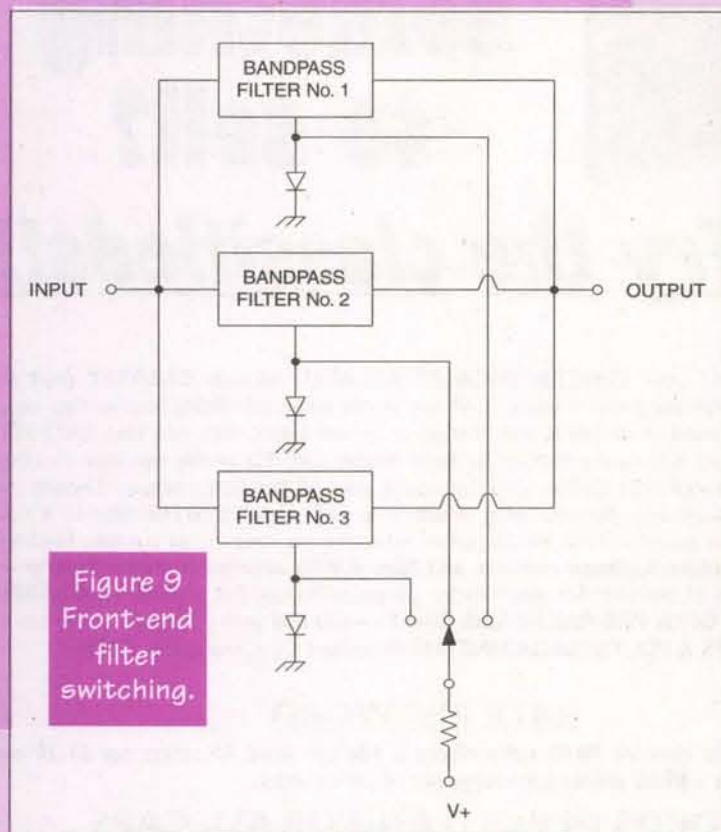

Figure 9
Another filter selection method is shown in Figure 9. The entire circuit differs from this variant in that a total of six filter sections are used rather than just three, as shown in Figure 9. In each bandpass filter (BPF1 and BPF2), a network of inductor and capacitor elements are used to set the center
The circuit of Figure 9 is shown using a switch to apply or remove the +12 VDC bias potential on the diodes, but in the actual receiver, this potential is digitally controlled. The digital logic elements sense which of 30 bands are being used, and selects the input RF filter accordingly.
10. The front-end of this circuit is a bank of selectable bandpass filters per Figure 9, so we will not dwell on that topic now. But at the output of the filter bank, there is shunted from the signal line to ground, a series combination of a capacitor (C1) and a PIN diode (D1).